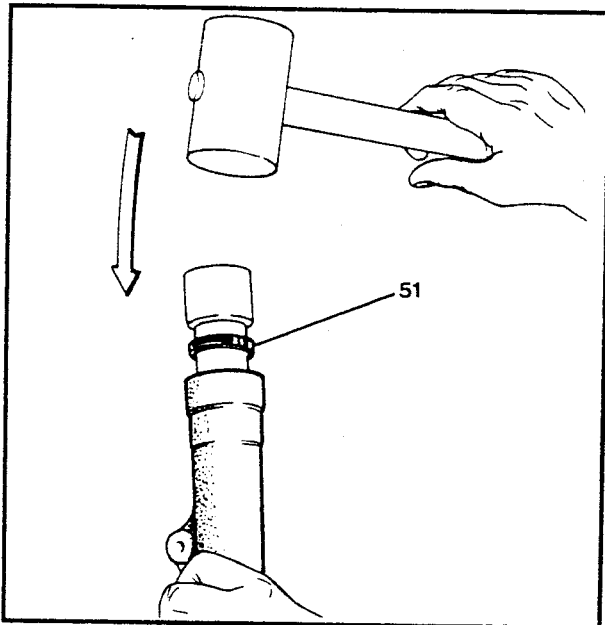

Figure 5-18. Install Oil Seal
- See Figures 5-18. Insert the oil seal using an appropriately sized plug of wood or metal to seat the seal on its seat in the slider. Use a rubber hammer or mallet.